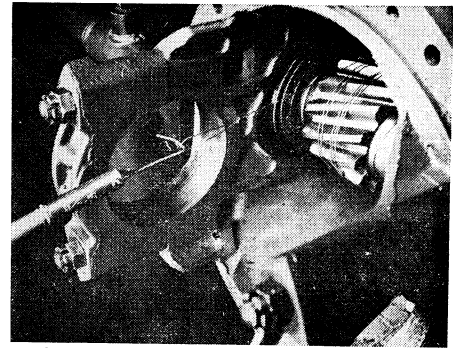

Fig. 64 Checking cross shaft bearing preload with wire and pound scale
7. To check cross shaft bearing preload torque, wrap soft wire around pinion and pull on a horizontal line with a pound scale, Fig. 64. Example: Assuming spur gear diameter to be 4", the radius would equal 2". With 8 pounds pull on scale, it would equal 16 inch-pounds bearing preload torque. Use rotating, not starting torque.